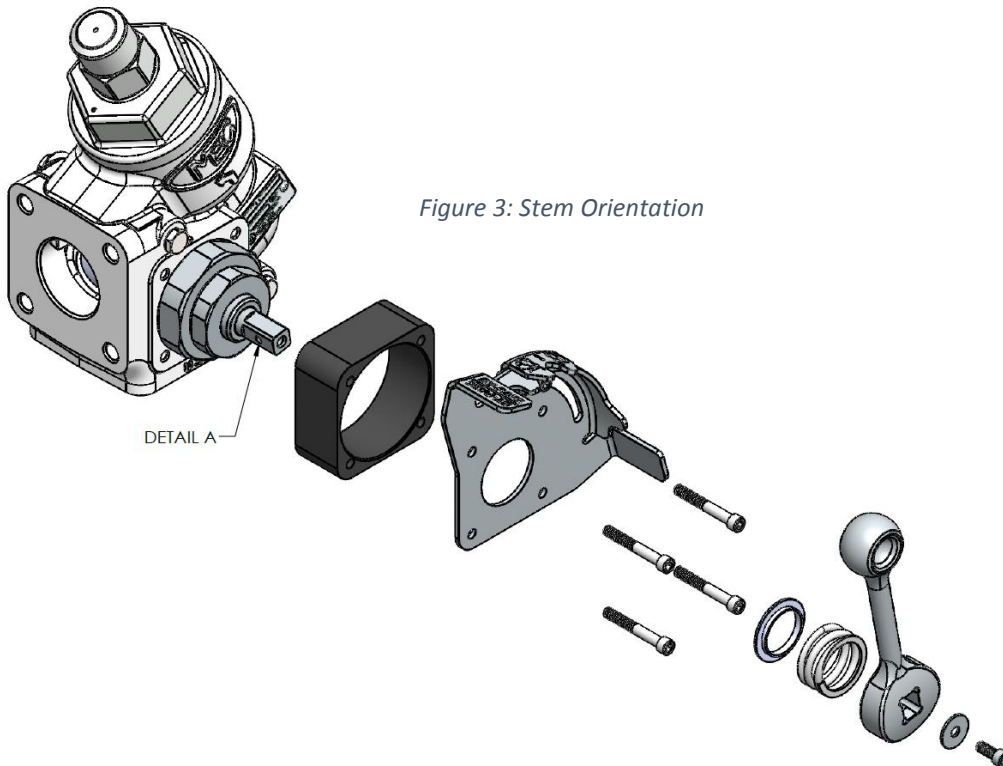

Figure 3: Stem Orientation
19. Install Spring Bearing [27], Handle Spring [31], and Handle [28] onto Gland Assembly. When installing Handle, make sure stem face with notch is facing outlet. (See Figure 3, Detail A)